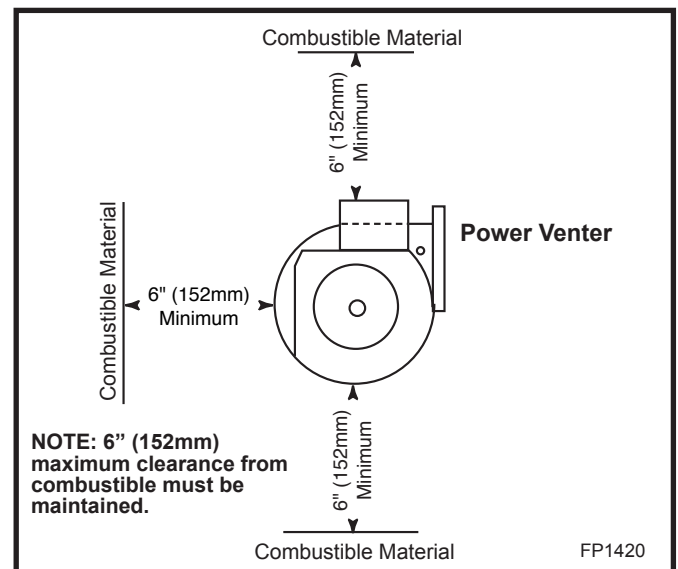

Fig. 4 Minimum clearance.
3. Power Venter housing in single wall a 6" (152 mm) clearance must be maintained. (Fig. 4)